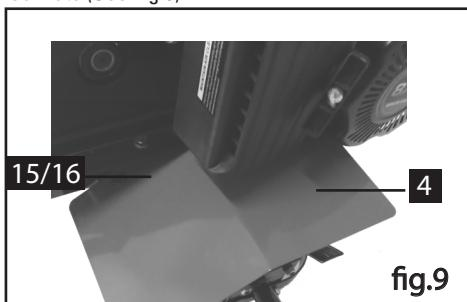

fig.9
8. Mount the blade cover and tight it on the machine with 2x M 8*16 screws and flange locknuts.(See Fig.9)